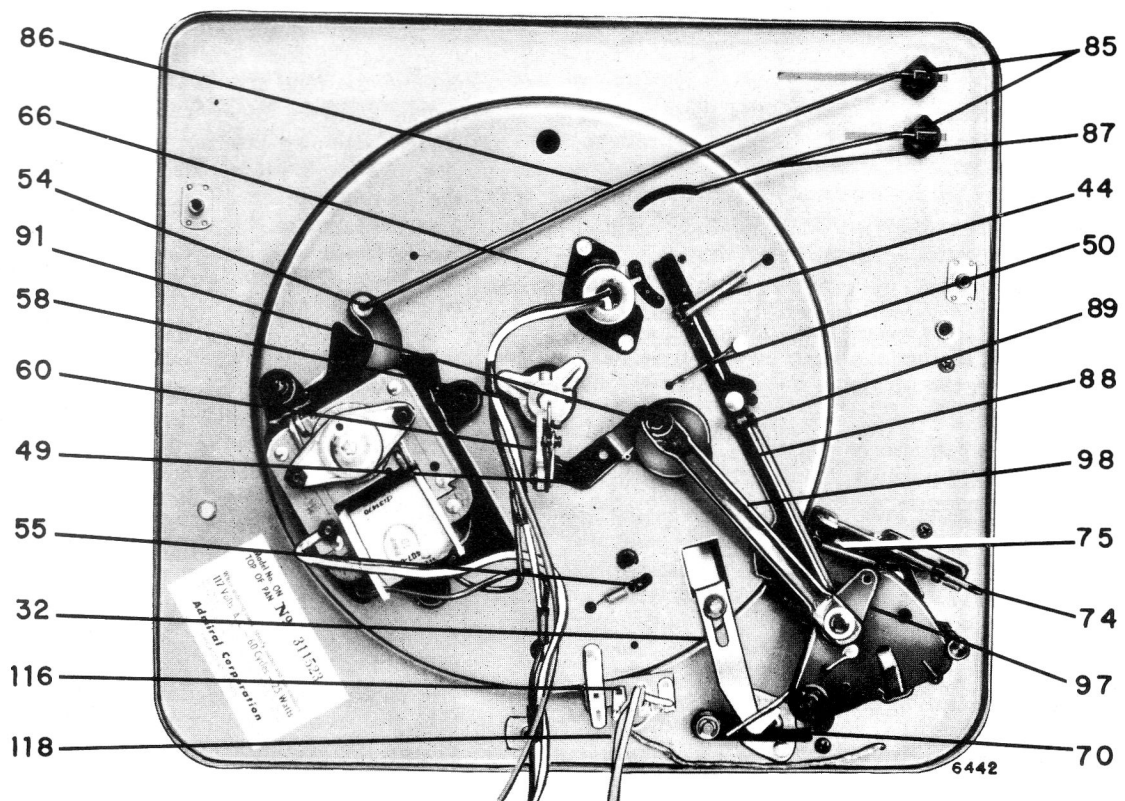

Figure 3. Bottom View of RC700 Changer. Changer out of cycle.
As drive gear (41) begins to rotate, the drive eccentric (91) also rotates, since both parts are mounted on the same shaft. See figure 3. As the drive eccentric rotates clockwise, the drive link (98) pivots the control plate (95). As the control plate pivots, the inclined cut-out moves from beneath the tone arm lift rod (82), raising the tone arm from the record. The safety arm (97) travels with the control plate (95). The stud on the safety arm engages the tone arm control lever (81) and moves the tone arm away from the centerpost.